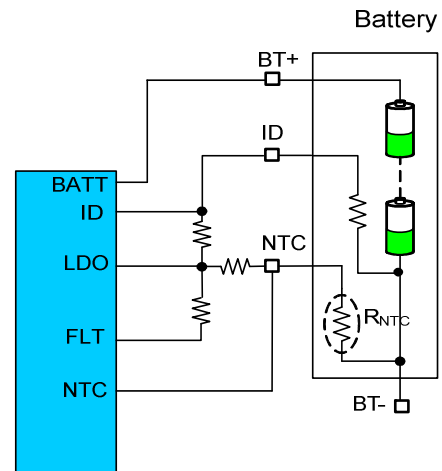
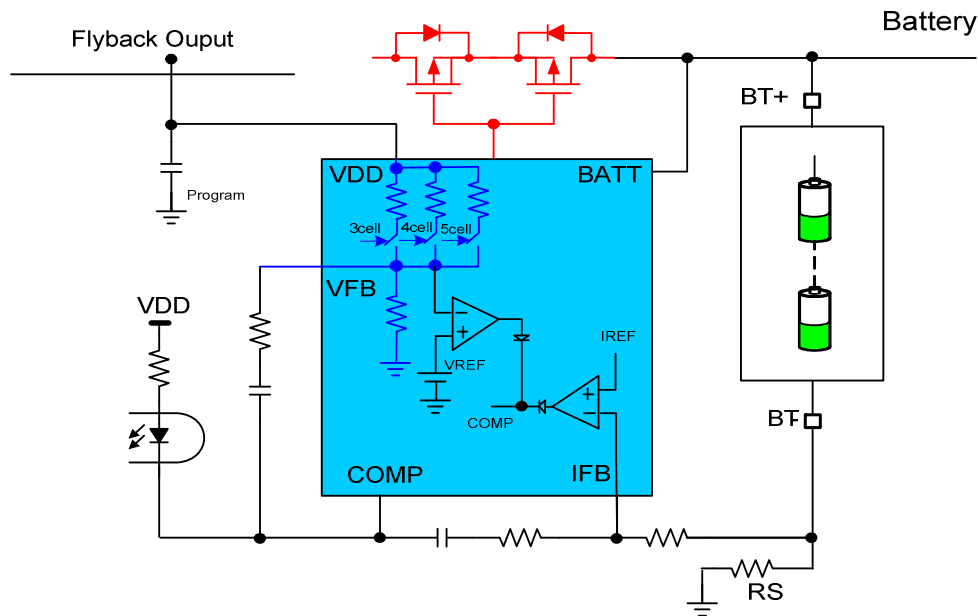

Figure 2. Battery-Pack Pin Connection
Figure 3. CC/CV Control Circuit of MP2681B
| 11 | NTC | Battery Temperature Monitoring (see Figure 2 for proper connection). |
The MP2681B supports 3 different types of battery configurations: 3S, 4S, and 5S using a dedicated ID resistor pin. When a battery pack configuration is detected through the ID resistor, automatically the charge voltage is set internally; different battery pack implementations require different ID resistor values. The MP2681B ID is connected to the ID resistor in the battery pack and pulled up to LDO by a resistor (see Figure 2). Every battery configuration has a pre-set V_{ID} value. As such, the MP2681B compares V_{ID} to its internal reference to figure out the inserted battery configuration. As the battery changes among the six pre-set configurations, the MP2681B detects such conditions, and it modifies automatically the resistor divider from VDD (see Figure 3). Charge current, as well as other charge parameters, change accordingly.
Figure 3 shows the CC and CV control circuit.
The current limitation (I_{CHG}) is performed by sensing the voltage across the sense resistor (RS) and comparing it to the charge-current reference (V_{IREF}). When the sense voltage on RS is higher than V_{IREF} , the output of the current-limitation loop operational amplifier decreases. The opto-coupler current increases and tends to reduce the output voltage by the way of the PWM controller (see Figure 3).